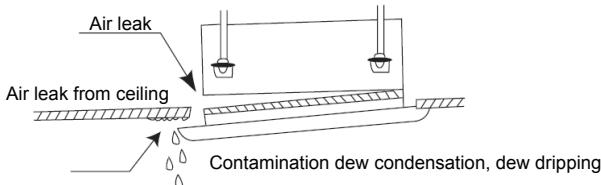

Fig.11.14
- (1). Improper screwing of the screws may cause the troubles shown in Fig.11.14.